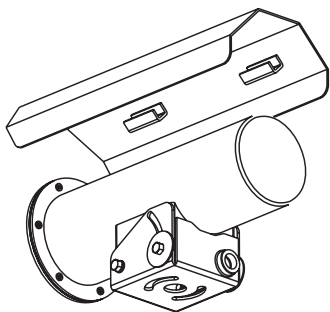

Figure 20
1. Insert the two mounting straps through the slots in the brackets inside the sunshield (Figure 20).